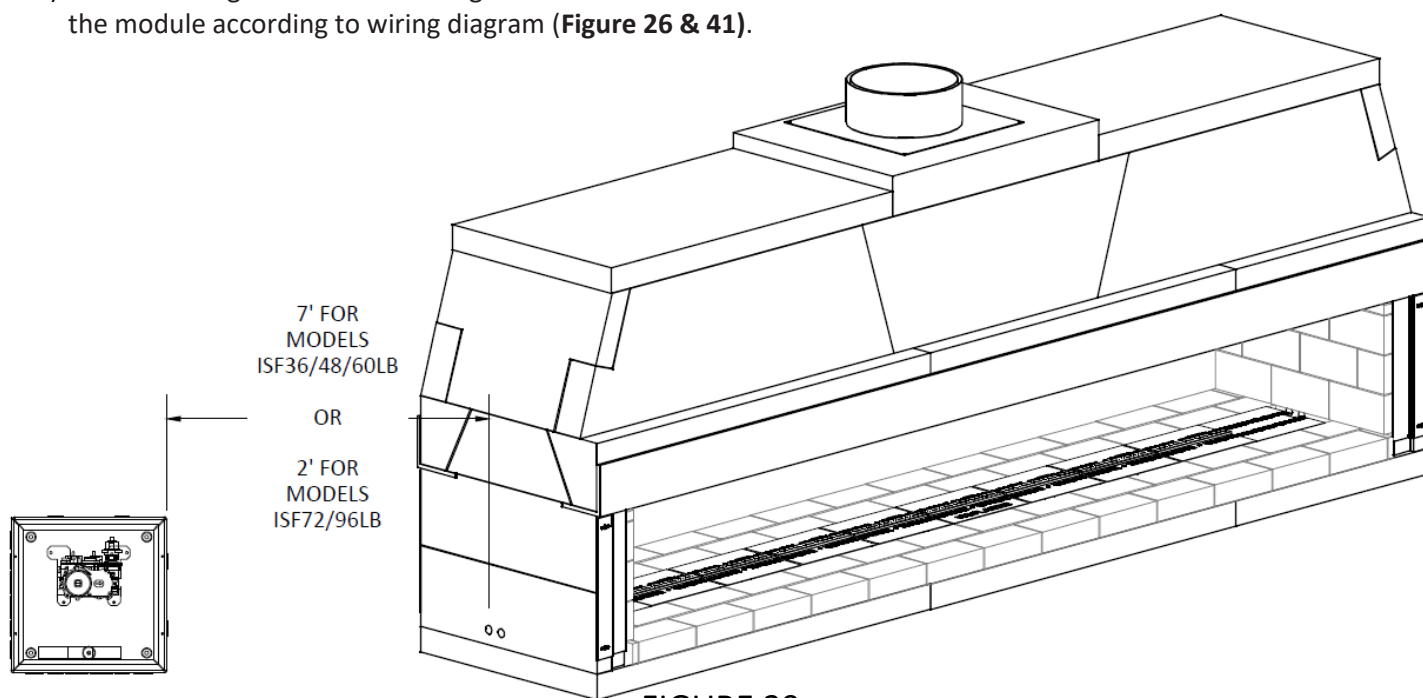

FIGURE 39
- 1) The valve control box comes with an 110" pilot assembly lead; therefore, the box must be mounted within 7' of the fireplace for burner models ISF36/48/60LB (N/P) and within 2' for models ISF72/96LB (N/P). This location should be within 4' (48") of the Meridian Control Panel. Valve controls are contained in a 12" x 12" x 4" NEMA 1 enclosure (**Figure 39**)